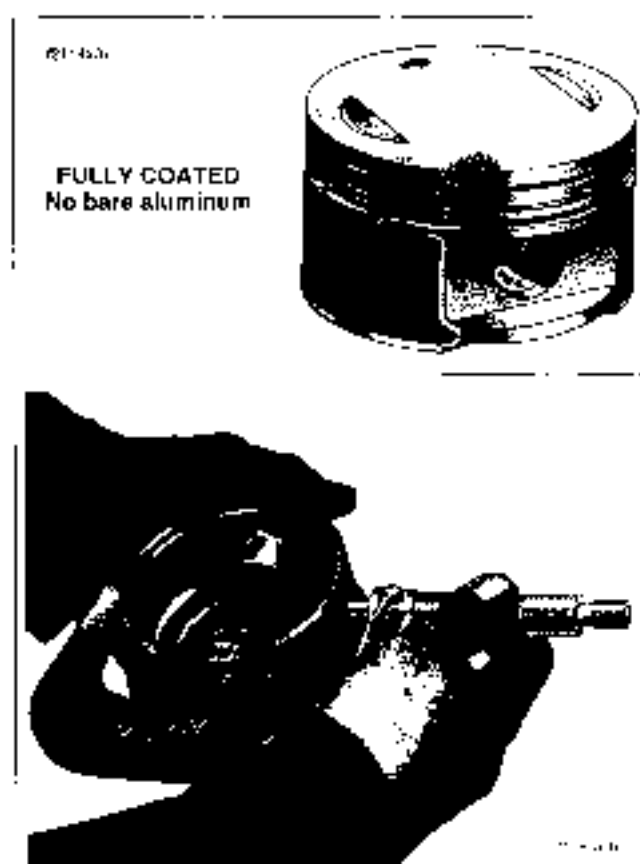

Figure 3-116. Measuring Running Clearance of Early Style Piston
5. See Figure 3-116. Measure running clearance of fully coated, early style pistons as follows: